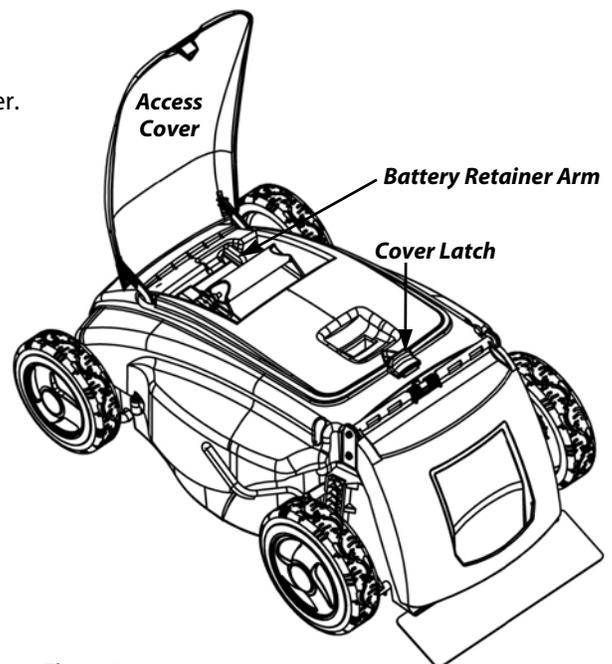

Figure 2
1. Push the Cover Latch (**Figure 2**) back and open the Access Cover.
2. Turn the Battery Retainer Arm until it is no longer blocking the Battery (**Figure 2**).
3. Turn the Battery Retainer Arm back over on top of the Battery to secure it in place (**Figure 2** on page 5).